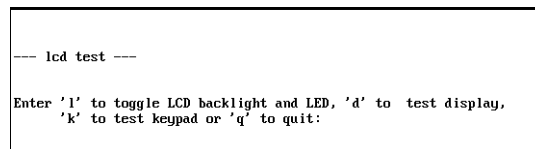

Figure 4-13. Sub-menu for testing the LCD display
4. Type **3** to test the LCD display from the sub-menu (Figure 4-13). Follow the on screen instructions, then type **q** to return to the main menu when testing is complete.